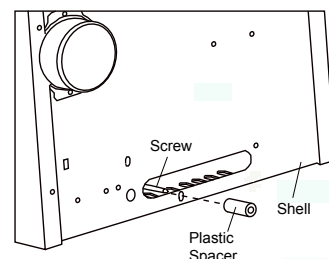
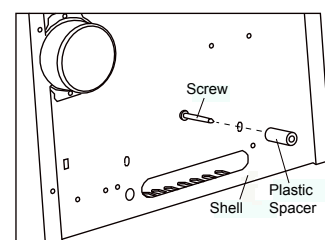

Figure 11A
Figure 11B
7. Using the longest screw and plastic spacer provided, drive screw from the inside of the heater body through hole shown in figures 11A and 11B and into the hole at the end of the plastic spacer. (For MD2TPA see Figure 11A), (For MD3TPA, MD3TPA-BB, MD5TPA, and MD5TPA-BB see Figure 11B)